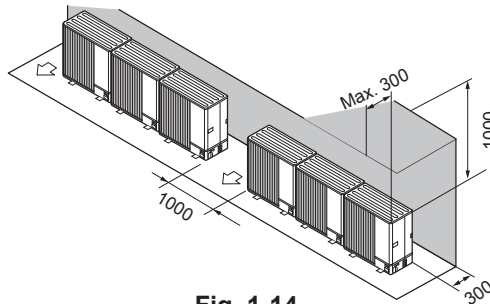

Fig. 1-14
- ② Obstacles at rear and above only (Fig. 1-14)